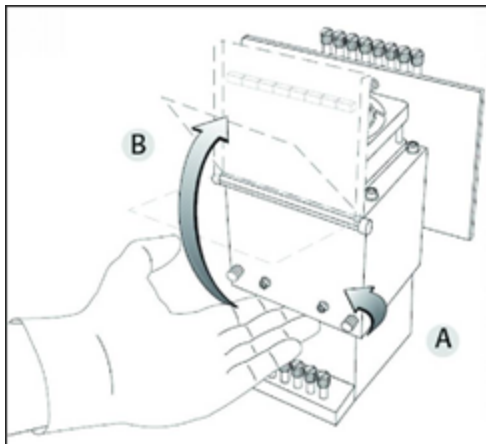

Figure 6-77 Opening the print-head compartment
- a. Open the print head compartment (see Figure 6-77 on page 6-59).